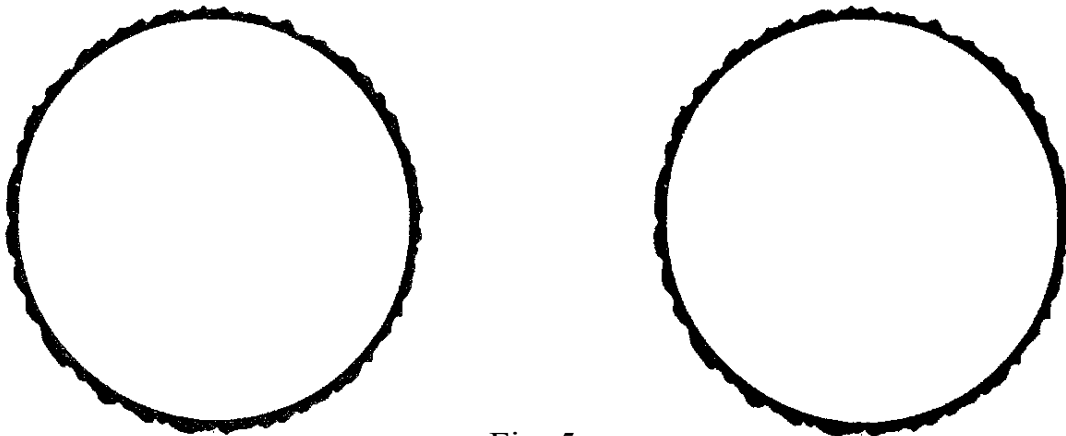

Fig. 5
38. Illustrate using figure 5 below, **TWO** methods of converting timber.